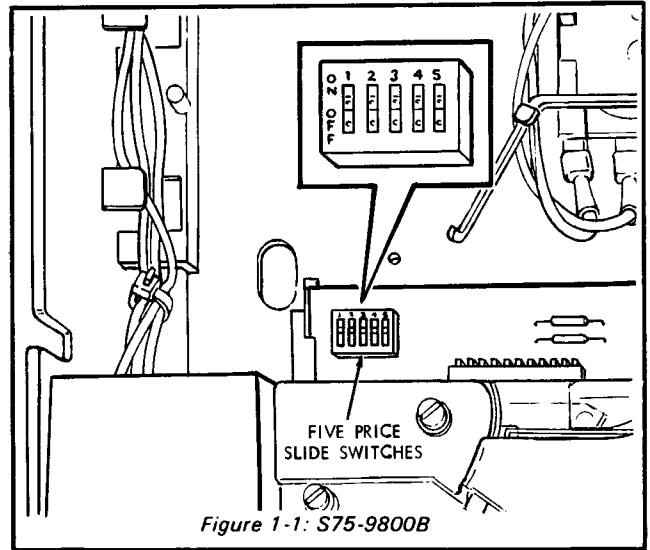

Figure 1-1: S75-9800B
2. The S75-9800B has one switch module with five rocker switches located on the upper portion of the printed circuit board. (Figure 1-1) (These switches correspond to prices as follows: #1=5¢, #2=10¢, #3=20¢, #4=40¢, and #5=80¢). When the top of the rocker switch is pushed in, the switch is in the ON position. Vend price is set by adding the value of all rocker switches in the ON position. EXAMPLE: Switches #2 and #3 in the ON position = 30¢ vend price.